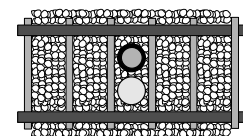
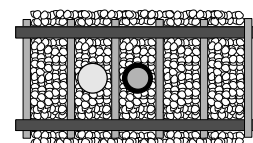
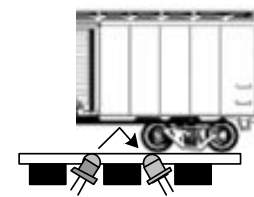

Figure 5a
Figure 5b
Figure 5c
The *Grade Crossing Pro* (GCP) provides prototypical operation of a grade crossing. Four pairs of Infrared (IR) emitters and detectors are used for bidirectional train detection. Detection is achieved when the IR beam from the emitter reflects off the underside of the train back down to the detector. **Despite the use of infrared components you could still encounter false triggering from overhead lighting. This is usually eliminated with angled sensor mounting (Figure 5c) and/or proper sensor sensitivity adjustment (page 4).** This version of the GCP must be powered from either a 7-9V AC or 9-12V DC power source (such as our 12VPSR). **Do NOT exceed these limits!** The layout of the signals and IR components is illustrated at left below. The illustration on the right shows a side view of the IR detection method.
The IR components should be mounted between the rails. Drill two 11/64” holes, approximately ¼” apart, through the ballast, roadbed, and sub-roadbed. For the smaller scales this drilling may end up hitting the ties. Take your time so you don’t mangle them! Figure 5a illustrates the suggested placement of the IR components between the rails; you may also locate them a tie apart from each other (Figure 5b). Insert the leads of one IR emitter (white and black wires) into one of the holes (it doesn’t matter which one!) from the top of your layout. Repeat for the IR detector (blue and black wires). The tops of the components should sit no higher than the top of your ballast for optimal IR performance; in some cases (e.g. false triggering) it may be necessary to locate the components a little below the ballast line. You can extend the leads with similar (or larger) wire. We recommend soldering and insulating these connections. We also recommend using terminal blocks/strips since you’ll have multiple DC and GND connections to make. Once you have wired the IR components and verified their operation you may wish to put a dab of white glue or silicone caulk where the wires exit the holes underneath the layout. This will help to hold the components in place; make sure you don’t get any substance (e.g. ballast or glue) on the top surface of the IR components as this may prevent them from operating properly. **Figure 5c is a variation of Figure 5b. In this case the IR components are mounted at an angle to each other. The benefit of this method is reduced false triggering from overhead light and increased detection reliability in smaller scales or irregular bottoms on rolling stock.**